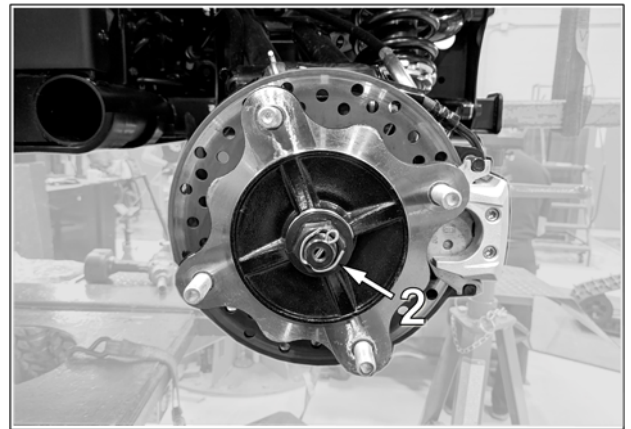

Fig. 9
**CAUTION:** Make sure that the wheel hub's castle nut cotter pin (2) does not interfere with the track system hub. See Fig. 9